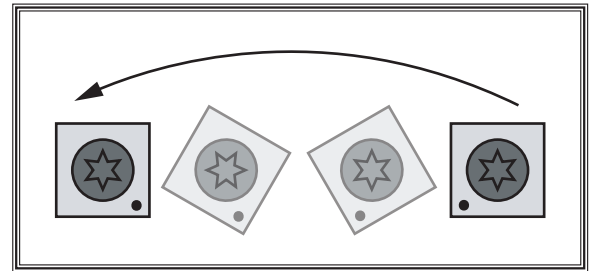

Figure 23. Insert rotating sequence.
8. Rotate insert 90° counterclockwise and install so that the fresh cutting edge faces outward (see **Figure 23**).